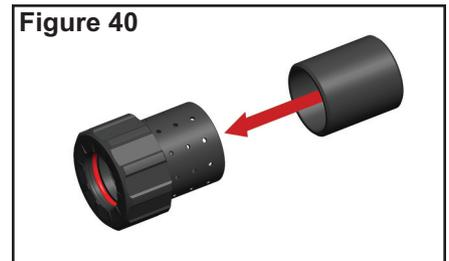

Figure 40
2. Install the fixed barrel spacer in the piston housing bore. See Figure 40.